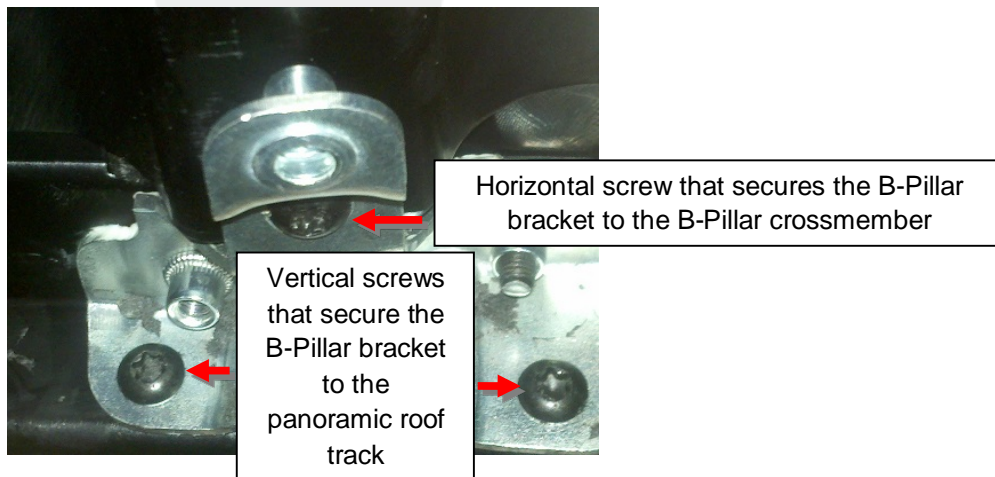

Figure 30
6. Remove the 3 screws (torque 5 Nm) from each B-Pillar bracket (Figure 30).